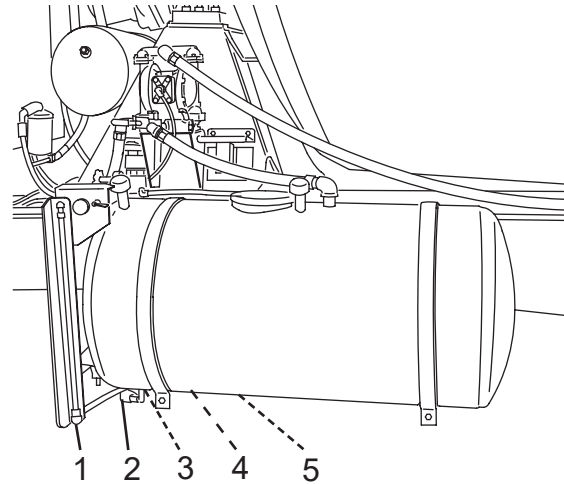

Figure 115
3. Remove the water tank drain plug(s) (Figure 115, Items 3 and 5), or open the drain valve(s) (if equipped).
4. Open the main tank (Figure 115, Item 4) and chemical tank (if equipped) (Figure 115, Item 2) sight glass isolator valves.
5. Open the sight glass drain valve(s) (Figure 115, Item 1).
- When no more water comes from the tank drain(s), install the water tank drain plug(s) (Figure 115, Items 3 and 5). Tighten the plug(s) until snug.
- Close the sight glass drain valve(s) (Figure 115, Item 4).